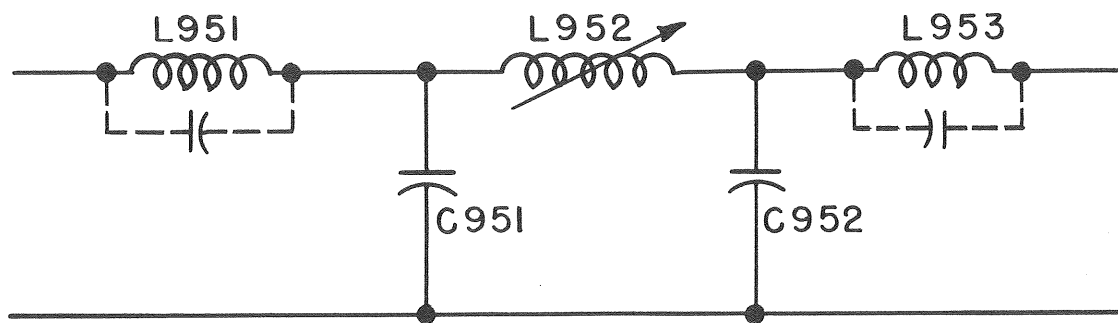
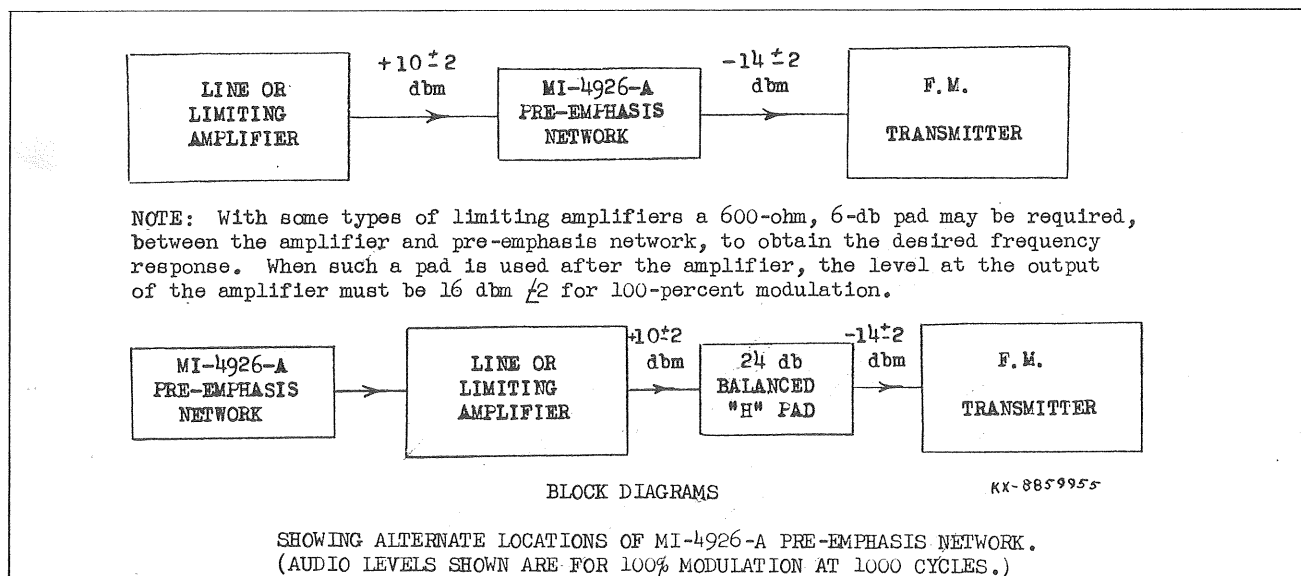

Figure 2—Harmonic Filter, Equivalent Schematic Diagram
Figure 5—Location of Pre-emphasis Network
**G. Harmonic Filter**—A harmonic filter is supplied for use in series with the transmitter output, and may be inserted at any convenient place in the output transmission line. An equivalent schematic diagram of this unit is shown in Figure 2. Electrically, the filter functions as a low-pass filter presenting essentially no attenuation at the fundamental frequency, but attenuating the harmonic frequencies in the output tank circuit. Physically the input and output circuits of the harmonic filter consist of  $1/8$  wave shorted transmission line sections. At the second harmonic frequency these sections are  $1/4$  wave long, and thus present a high series-impedance to the second harmonic frequency. Only one adjustment is required to cover the FM broadcast band. This adjustment depends on the frequency, and is determined from the curve shown in Figure 5. This adjustment should provide for a minimum standing wave ratio (SWR). If after adjustment has been made the SWR is high, the filter should be adjusted for minimum SWR.